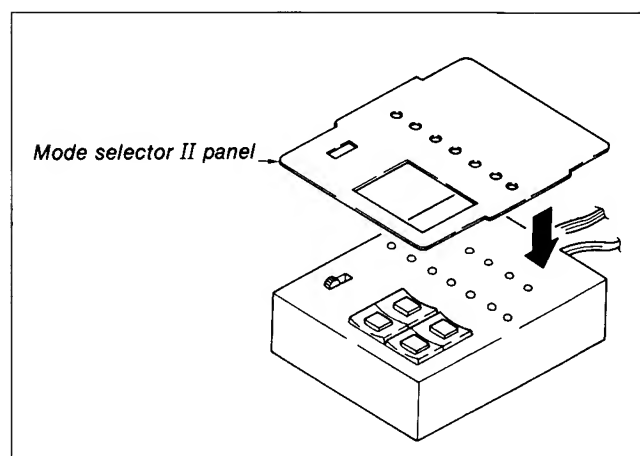

Fig. 8-7.
•Install mode selector II panel (See Fig. 8-7)